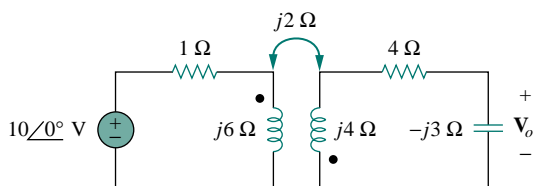

Figure 13.77 For Prob. 13.7.
- 13.7 Obtain V_o in the circuit of Fig. 13.77.